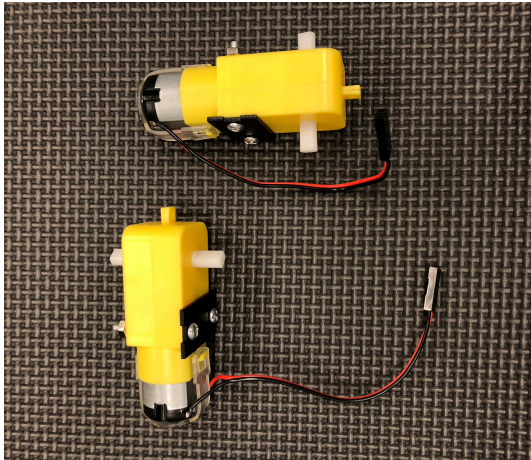

Figure 2. Motors with metal parts connected
1. Connect the **small metal plates** to the motors using the two long screws and nuts as shown in Figure 2. Make sure the plates are mounted on the correct side of the motors.